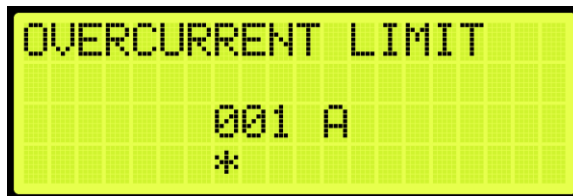

Figure 316: OVERCURRENT Menu
5. From the OVERCURRENT menu, enter the maximum current allowed (See Figure 316).